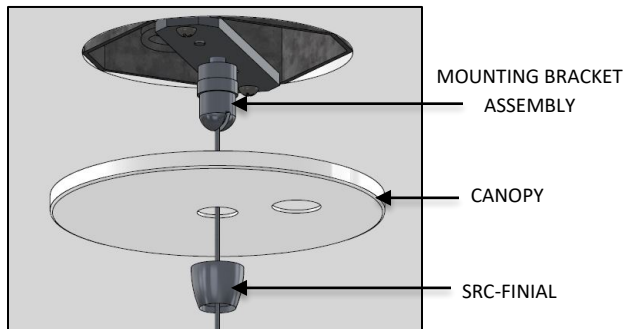

FIG. 18 – CANOPY DISASSEMBLY
15. Once the LOOP BODY is secured to the AIRCRAFT CABLE (4) at the GRIPLOCK (4) Unthread the SRC-FINIAL from the MOUNTING BRACKET ASSEMBLY and lower the CANOPY as shown below in FIG. 18.